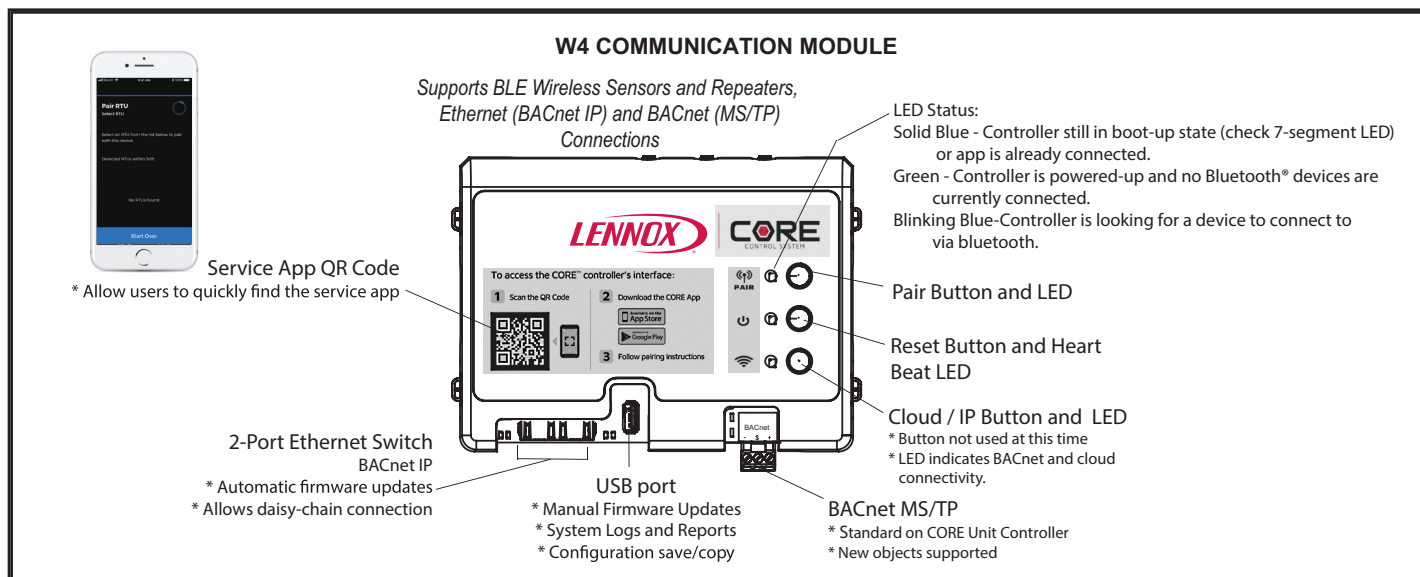

FIGURE 20
- 2 - Press and hold the pair button for five seconds. See FIGURE 20.